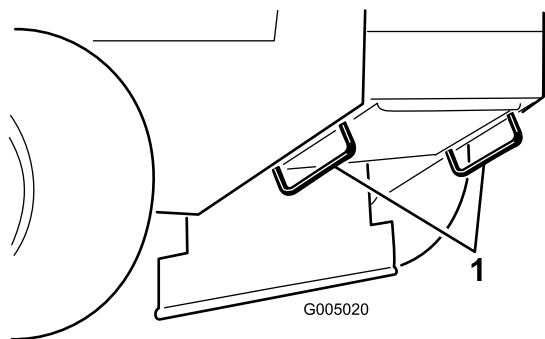

Figure 15
5. Use the tie-down loops on the machine to securely fasten the machine to the towing vehicle with straps, chains, cable, or ropes (Figure 15).